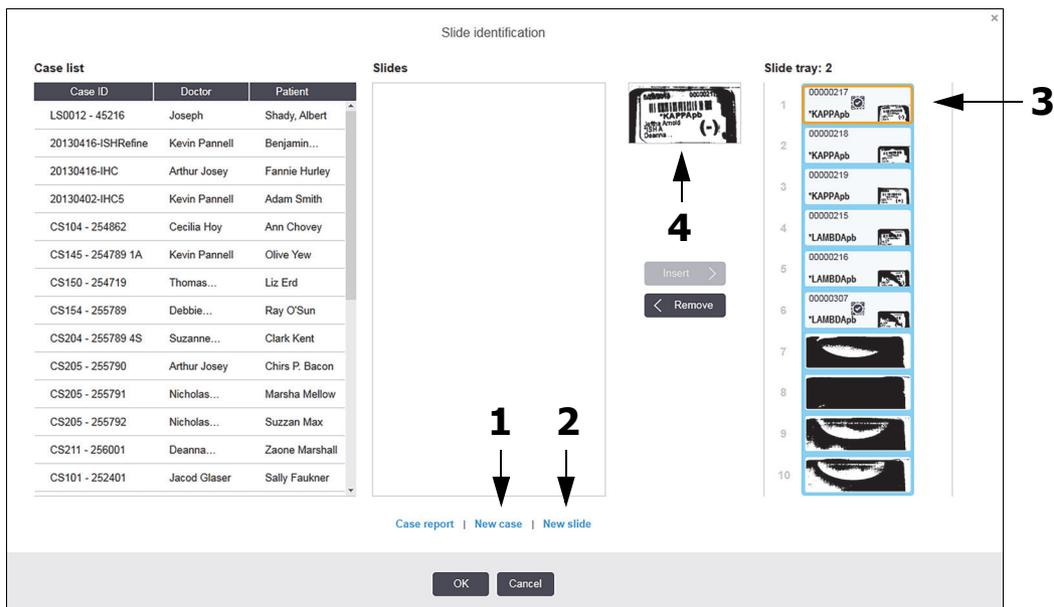

Figure 76: Slide identification dialog with slide status display.
The **Slide identification** dialog appears with **New case** and **New slide** buttons available (items 1 & 2 in Figure 76).
By default BOND allows you to load slides that have not been created in the BOND software (or imported from an LIS), and to create the cases and slides in the software after the slides have been imaged, using the **Slide identification** dialog. Optionally, you can set the system to disallow the creation of new cases this way (but still allow creation of new slides for existing cases), or completely disallow creation of slides (and cases) after loading slides. Depending on your setting the **New case**, or both **New case** and **New slide** buttons in the **Slide identification** dialog are disabled (see Figure 76).